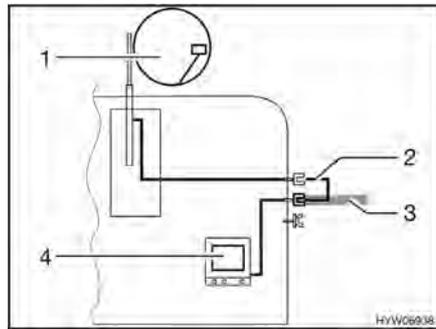

Fig. 110 TV inside the vehicle
- TV inside the vehicle (Fig. 110,4): Connection to roof antenna (Fig. 110,1) with connection cable (Fig. 110,2)
- TV inside the vehicle (Fig. 110,4): Connection to external antenna (Fig. 110,3)